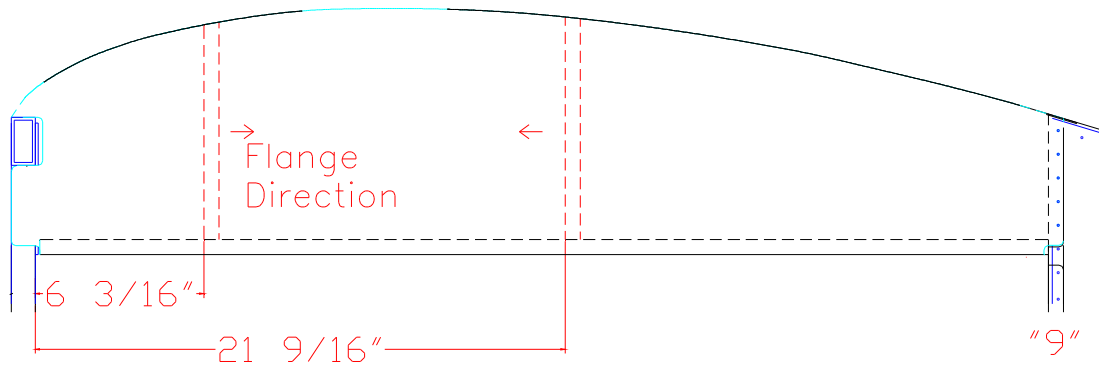

Figure 9.9.6
- 8) The two R-BULK 1 assemblies (referred to as “A” and “B” in Fig. 9.9.5.) prepared earlier are to be installed between the two FUS-27 root ribs. Figure 9.9.6. The bulkheads must be tied into the FUS-27’s as in Fig 9.9.5. On each top bulkhead and inside FUS-27’s lower flange install a gusset made from .032 material.
- 9) Drill #40 rivet lines (nine equally spaced holes allowing for bulkhead cutout) in the FUS-27 root ribs. Fig. 9.9.6.